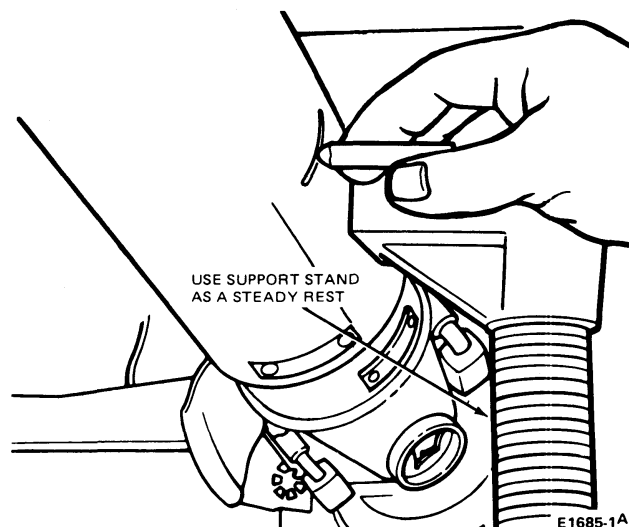

FIG. 15 Marking Driveshaft
5. With the transmission (and transfer unit) in gear, run the vehicle with the driveshaft and coupling shaft rotating at a speedometer speed of 64-80 km (40-50 miles), carefully bring a crayon, piece of chalk, or colored pencil up until it just barely contacts the rear end, center and front end of the driveshaft (Fig. 15). The chalk marks will indicate the heavy side